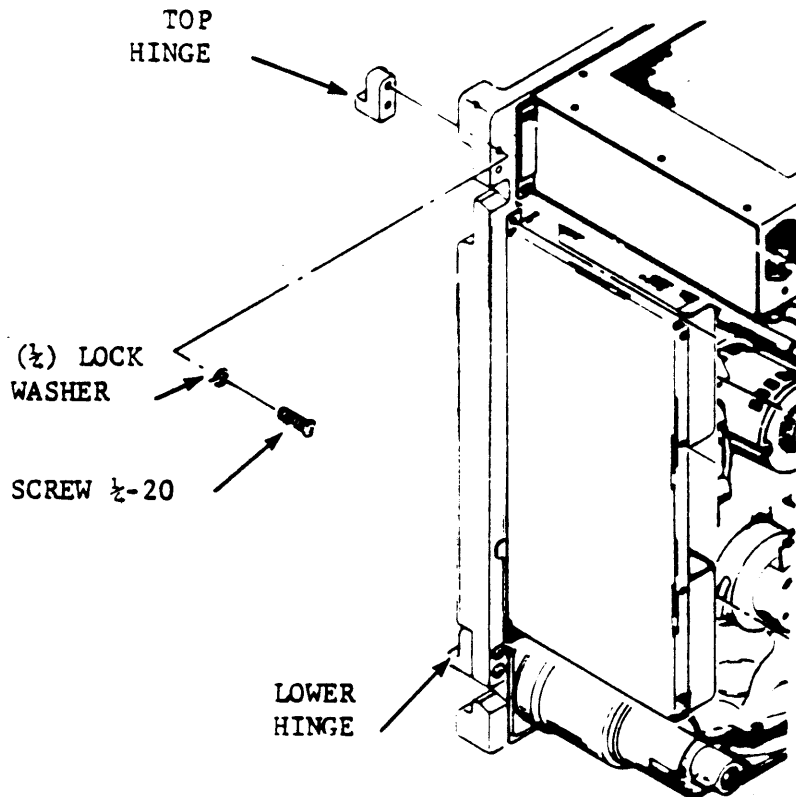

Figure 3-11. Hinge Mounting (Transport)
3. When shipping frame is removed, install two hinges with screws and lockwashers as shown in figure 3-11.